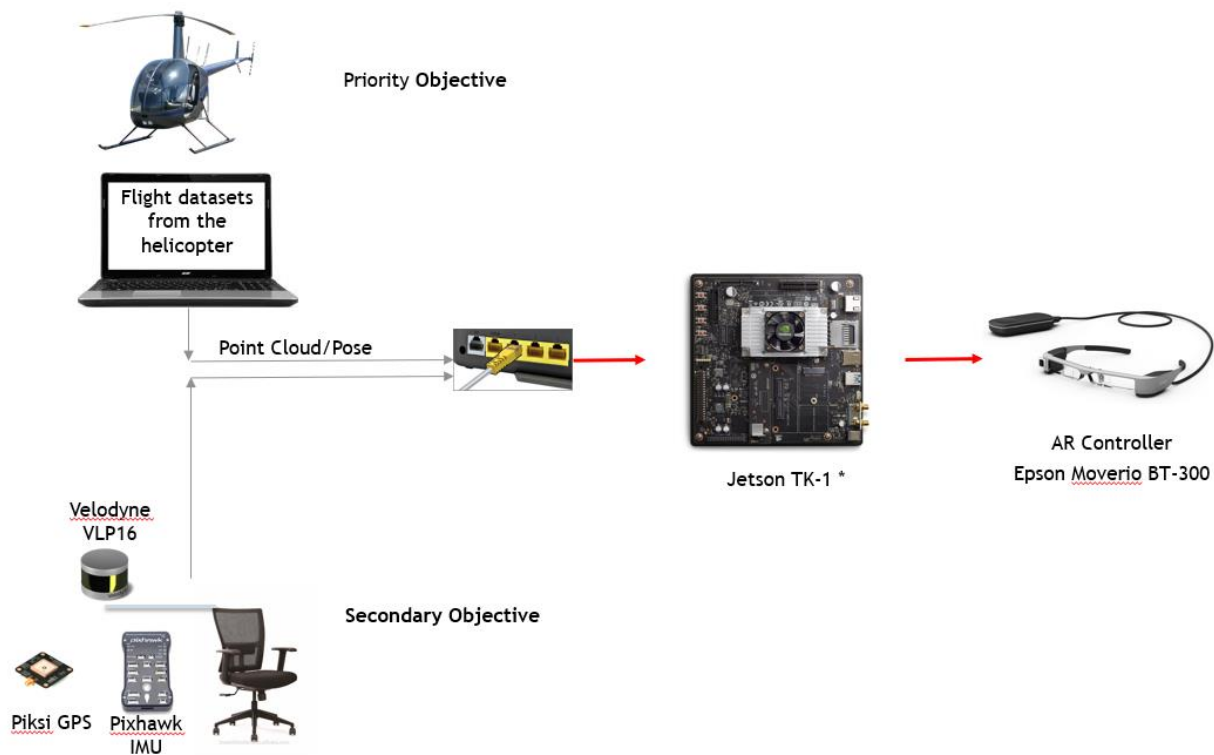

Figure 1
1. In the past week, I helped in defining our fall validation experiment a little better. We decided that we will demonstrate the functionality by two experiments. These are explained in Figure 1.